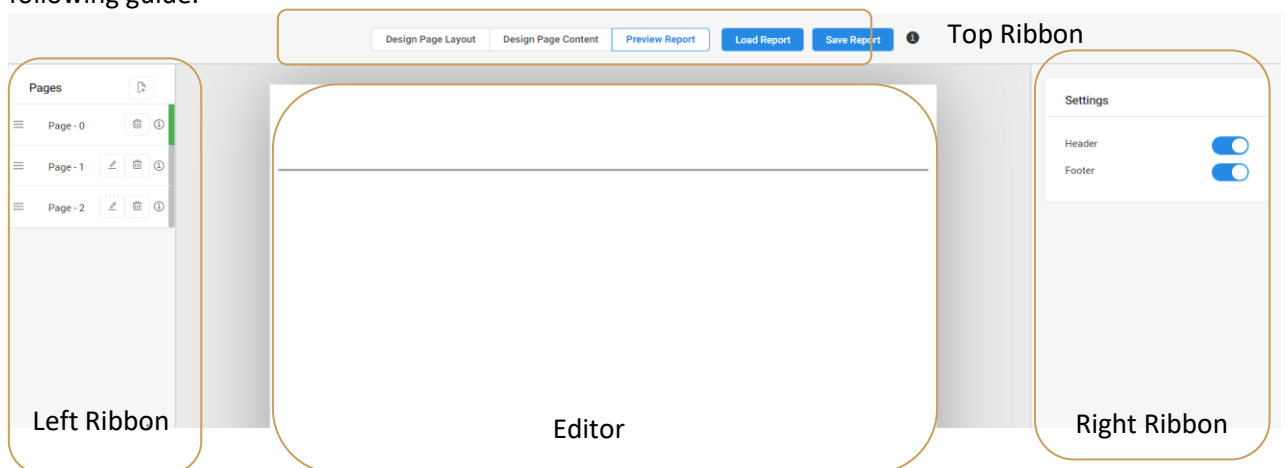

Figure 9 REPORT DESIGNER
- a. Here you can set the trigger mode, frequency and intervals between automatic report generation. (**Figure 9**)
Figure 9 shows the layout of the report designer and how each section is referred to in the following guide.
When in **Design Page Layout** mode, it is possible to resize and edit the header and footer of the report. Initially, this is applied to all pages in the report (and any subsequently added pages). This can be overridden per page by using the **Settings** options on the right ribbon (Figure 9).